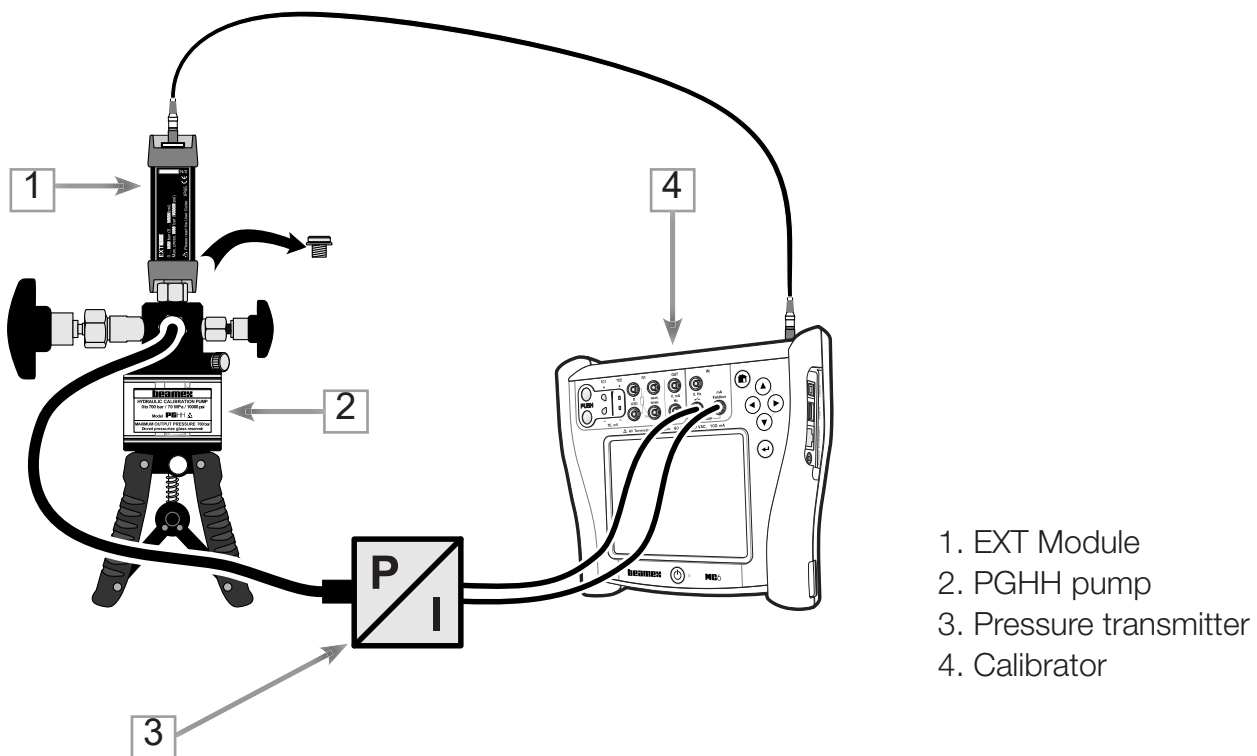

Figure 2. An example of the connections.
3. Connect the instrument to be tested to the Pressure Measurement Hose and attach it to the pump. Be sure that all the output connectors are properly plugged or connected to an instrument to avoid leakage (see figure 2).